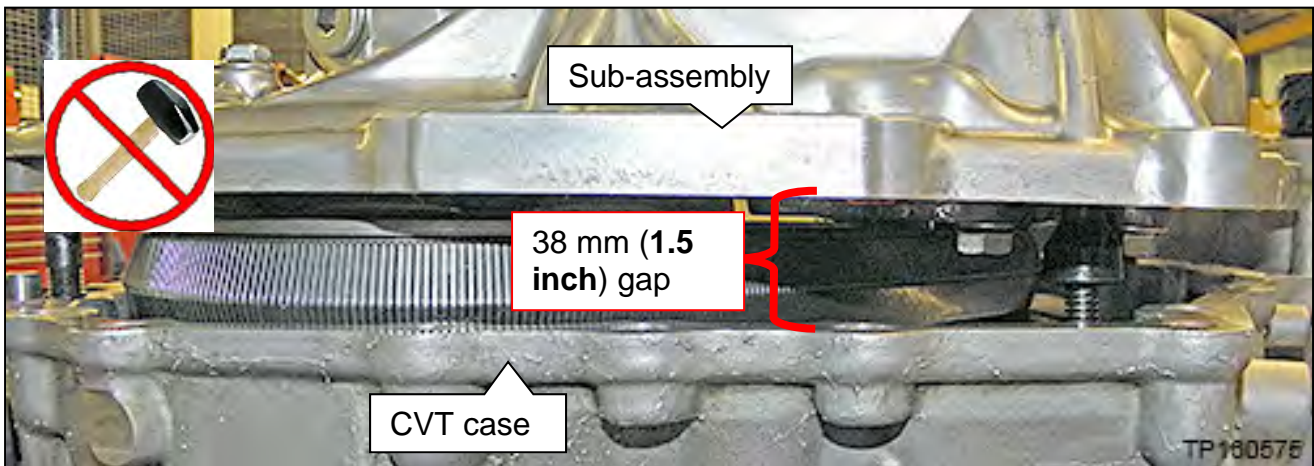

Figure 101
73. Carefully, lower the Lifting Fixture to install the sub-assembly into the CVT case until a **38 mm (1.5 inch)** gap is present between the sub-assembly and CVT case (Figure 101 on page 50).
IMPORTANT: Perform step 74 while there is a **38 mm (1.5 inch)** gap between the sub-assembly and CVT case (Figure 101).